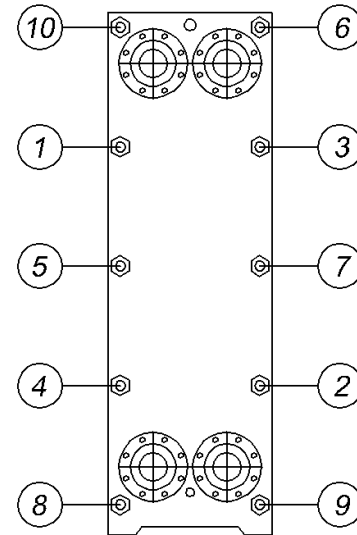

Figure 4.3 Example of Manual Tightening Sequence
- Tighten the plate pack using diagonally opposite tie rod pairs, in a sequence similar to that given in Figure 4.3 below. Ensure during closing that the fixed and mobile heads are kept parallel to each other to within 1/4" to 1/2".